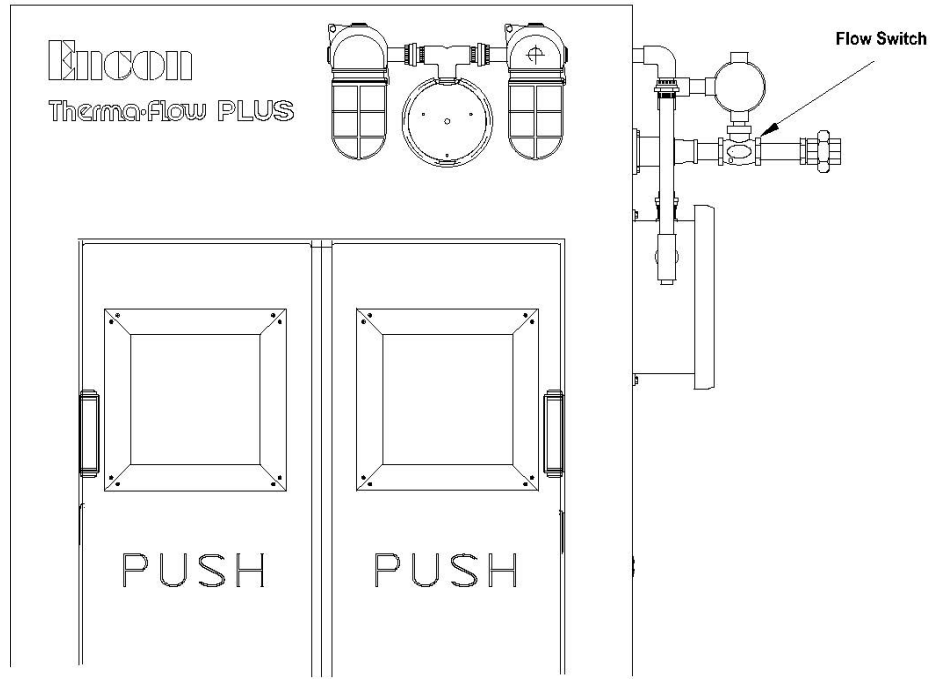

Figure 4-13. Upper Section with Alarms and Flow Switch
4. Loosen the bonnet nut from the flow switch body at the conduit. Remove the bonnet ring. Rotate the switch bonnet counter-clockwise, clearing the conduit, and remove the flow switch assembly from the unit body. You do not have to remove the unit body from the system (see Figure. 4-13).
5. Ensure the shuttle assembly is clean and easily moves up and down the switch tube. If necessary, remove retainer ring "A" for complete shuttle disassembly and remove ring "B" to disassemble the disc only (see Figure. 4-13) to thoroughly clean the assembly.
**Note:** When installing the flow switch, ensure the direction of the flow is correct by looking at the flow switch housing marked "IN" and "OUT" (see Figure. 4-13). Do not let sealing compound get inside the flow switch.